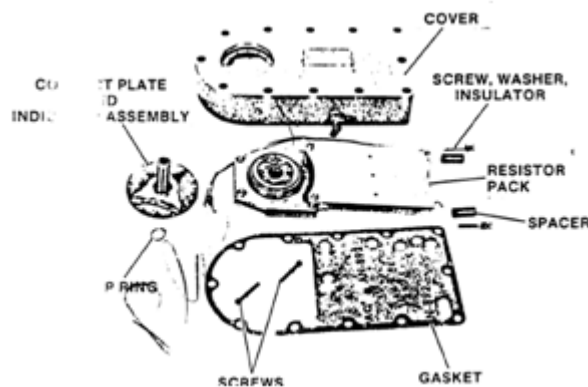

Figure 5-12. Vane Servo
9. Remove vane-servo cover, 12 screws (Figure 5-12).
11. Remove snap ring and lift out contact plate and indicator assembly (Figure 5-12).
12. Remove 2 screws under contact plate and 2 screws and spacers from end of resistor pack and remove resistor pack (Figure 5-12).